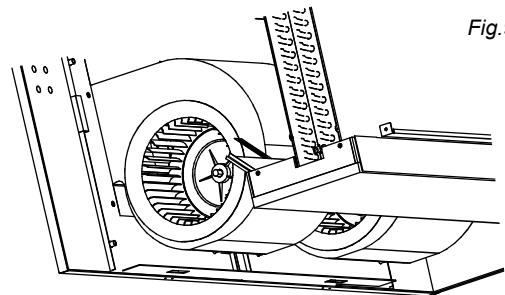

Fig.9-9
- 3) Once the hole on the fan clapboard is higher than the pin on the front board, move the assembly to make the pin through the hole. (Fig.9-9)